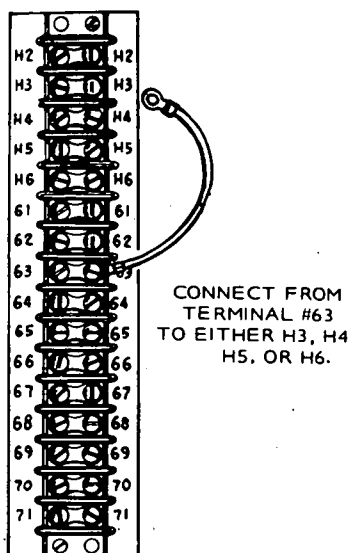

FIGURE 15. CONNECTING LEAD FROM TERMINAL 63
3. Open hinged control panel doors. Connect lead from terminal 63 to correct terminal for voltage desired. These terminals are labeled H2, H3, H4, H5 and H6. See Figure 15.